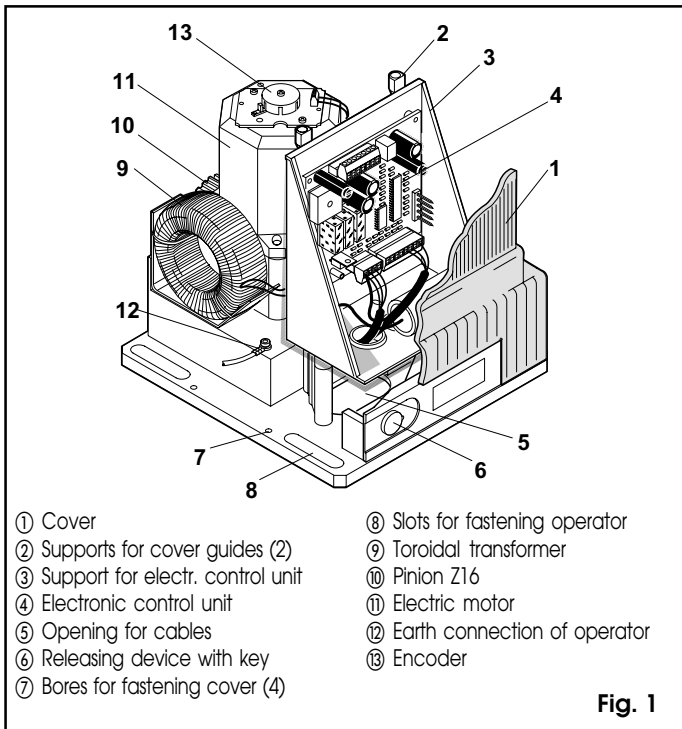

Fig. 1
Pass the electrical cables through the relevant opening (fig. 1 - ref. 5) on the base of the operator.
7) Pass the electrical connection cables through the relevant opening on the base of the electronic control unit support (fig. 1 - ref. 3), using the cable clamp supplied.
Important: connect up the earth cable of the system to the position shown in fig. 1 - ref. 12.